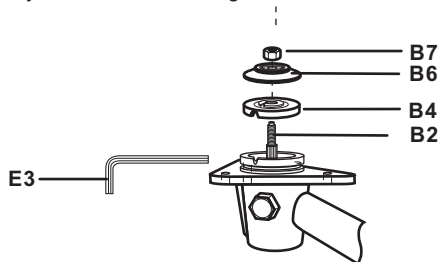

Fig. 3b
4. Loosen the safety nut (B7) clockwise with socket wrench Multi tool (E1) and take it off together with the locking flange (B6) and backing flange (B4) (See Fig.3b)